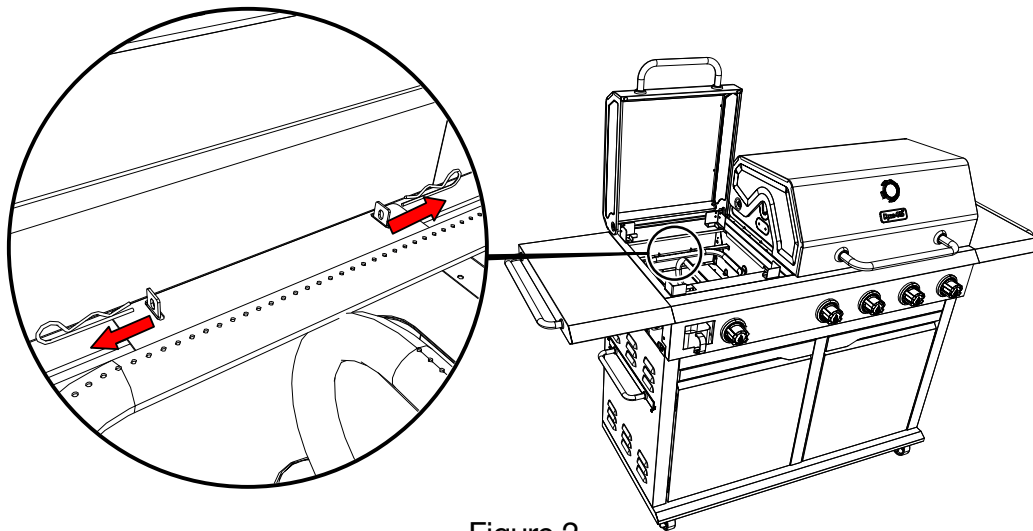

Figure 2
3. Remove both hinge pins as shown in Figure 2.